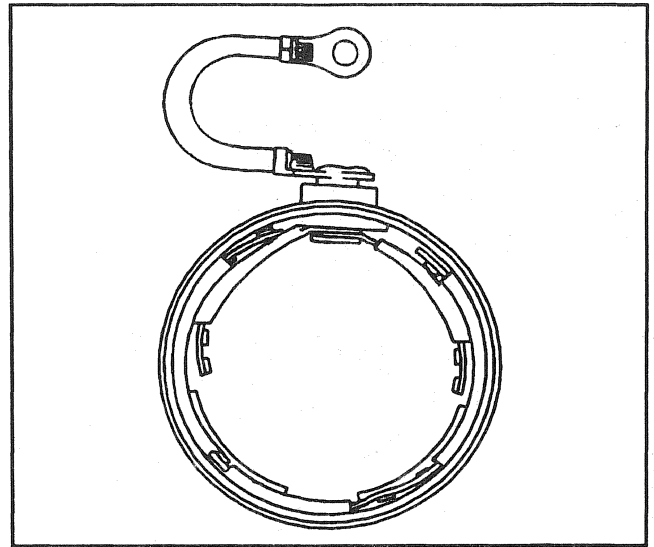

Figure 10—Frame and Field Assembly
3. Check the frame and field assembly for grounds or opens (Figure 10).